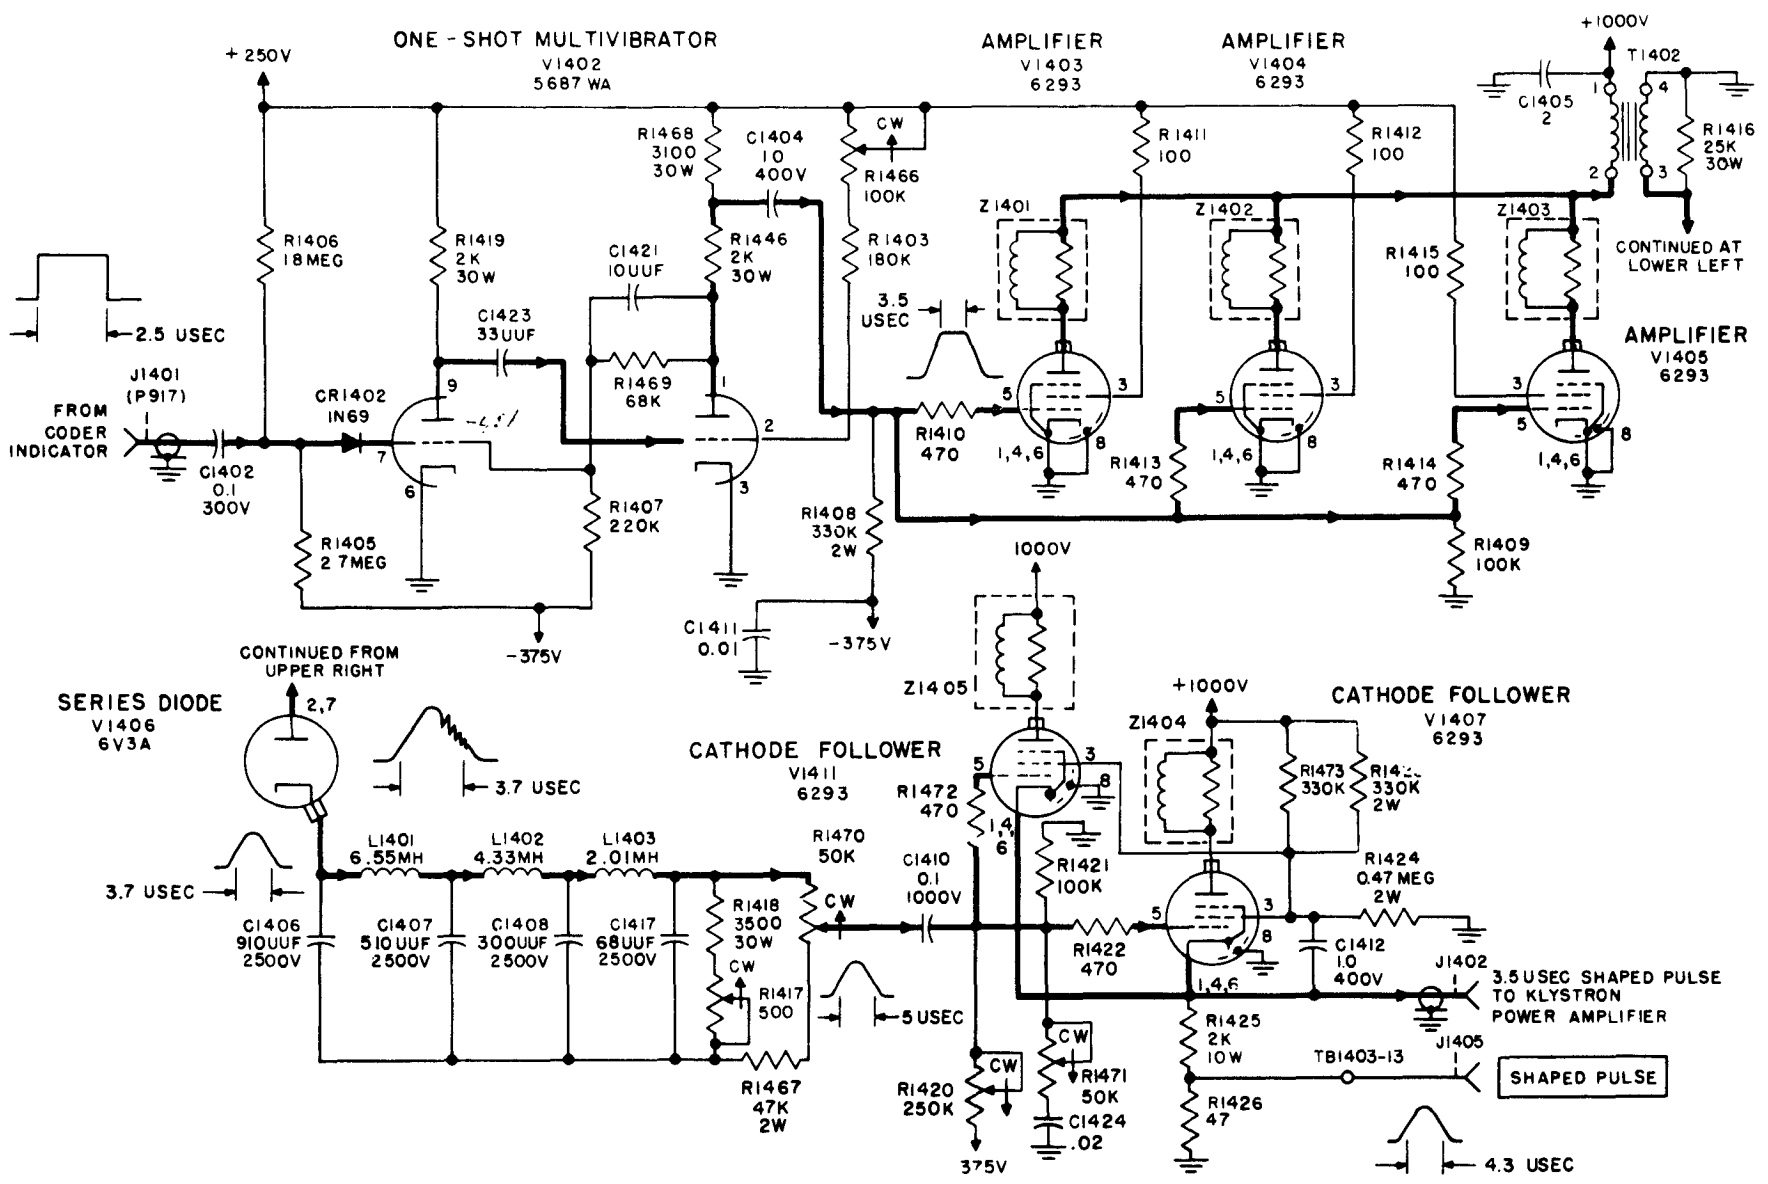

Figure 4-35. Frequency Multiplier-Oscillator CV-1171/GRN-9D, Shaped Pulse Generator, Simplified Schematic Diagram
2. SHAPED PULSE GENERATOR. — Positive pulses from the coder-indicator video chassis are applied to jack J1401 on the frequency multiplier-oscillator chassis (figure 4-35). The pulses are 1.5 microseconds wide. This is a considerable portion of the period of multivibrator V1402. To prevent the negative-going trailing edge of the trigger pulse from affecting the operation of multivibrator V1402, crystal diode CR1402 is inserted in series with the signal path of the trigger pulse. The positive-going leading edge of the trigger pulse is passed through crystal diode CR1402 and triggers multivibrator V1402. Multivibrator V1402 is a monostable multivibrator with triode V1402B conducting during the quiescent state. The grid of tube V1402B is returned to the 250-volt B+ supply through potentiometers R1403 and R1466. The grid of tube V1402A is connected to a voltage divider consisting of potentiometers R1468, R1446, R1469, and R1407 connected between the +250- and -375-volt power supplies. With tube V1402B conducting, plate current flowing through potentiometers R1468 and R1446 causes a drop in voltage at the plate of tube V1402B and changes the voltage distribution in the voltage divider so that approximately -30 volts is